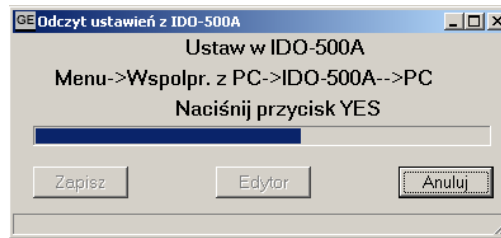
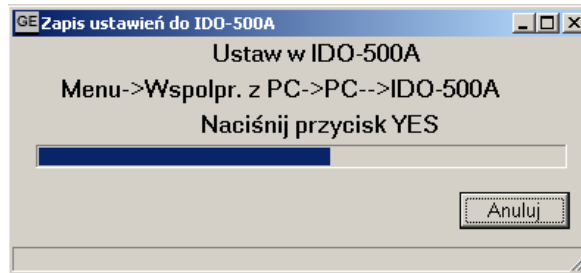

fig. 26
fig. 30
When you choose this option, a window shown on the fig.26 appears.
Before turning on you need to set in IDO: Menu=>Cooper. with PC=>IDO-500A-->PC. After the window (fig.26) appears, press in IDO-500A the YES button. The progress meter defines the expected time of waiting for pressing the YES button in IDO-500A and, after the application starts reading, it shows the progress of the data being sent.
**Point 2.** When you press the Save to IDO button, a window shown on the fig.30 appears. Before turning on you need to set in IDO: Menu=>Cooper. with PC=>IDO-500A-->PC. After the window (fig.26) appears, press in IDO-500A the YES button.